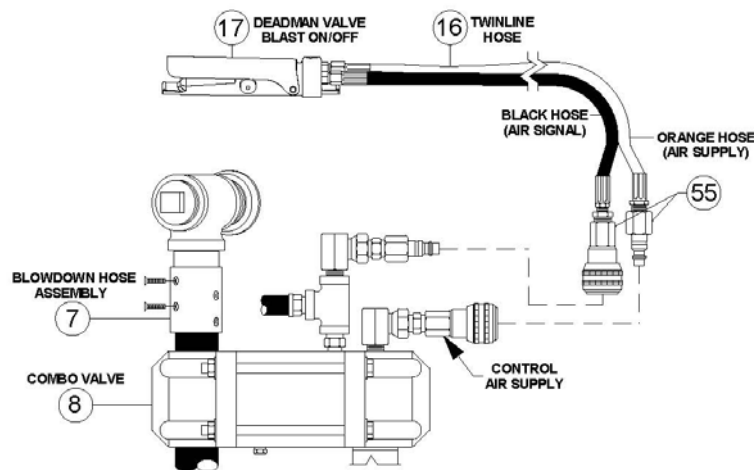

Figure 5.5 – Pneumatic Blast Control System
5.12.1. Pneumatic Deadman System: When the pneumatic deadman lever (#17) is pressed down air supply from the orange hose of the twinline hose (#16) flows into the black hose. Air flows through the black hose sending air signals to the Combo Valve® (#8), the automatic air valve (#12), and the Thompson Valve II (#14). When the deadman lever is released, the air signal is cut off and the remaining air vents from the deadman lever (#17). See Figure 5.5 and the drawings in Section 9.1.